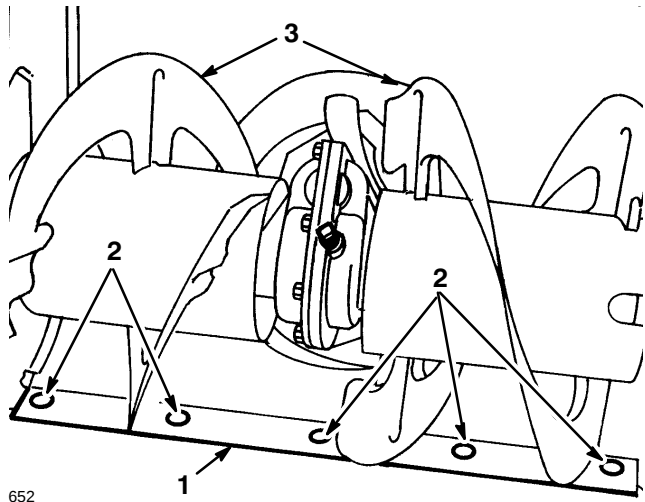

Figure 24
5. Support the auger blades so that both the scraper and the auger blades (Fig. 24) clear the level surface by 1/8 in. (0.3 cm).
7. To adjust the scraper, loosen the five screws (Fig. 24), level the blade, and tighten the five screws.